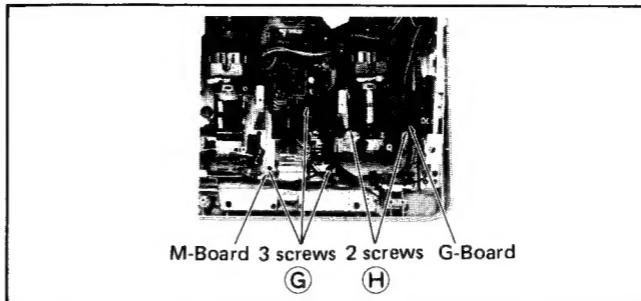

Fig. 8
- Remove 3 screws **(G)** in fig. 8.
- Remove 2 screws **(H)** in fig. 8.